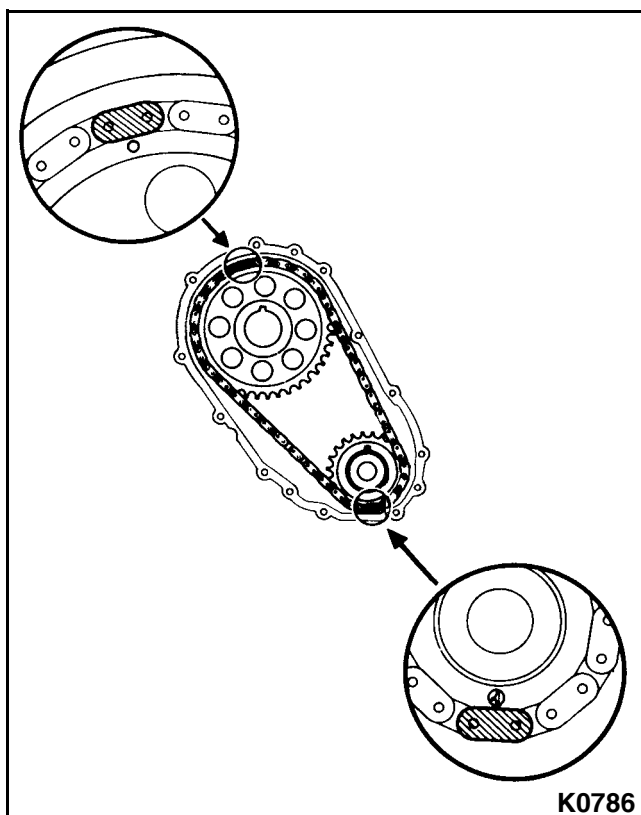

Figure 3-183
3. Assemble the crankshaft timing gear, camshaft timing gear, and timing chain. **See Figure 3-183.**